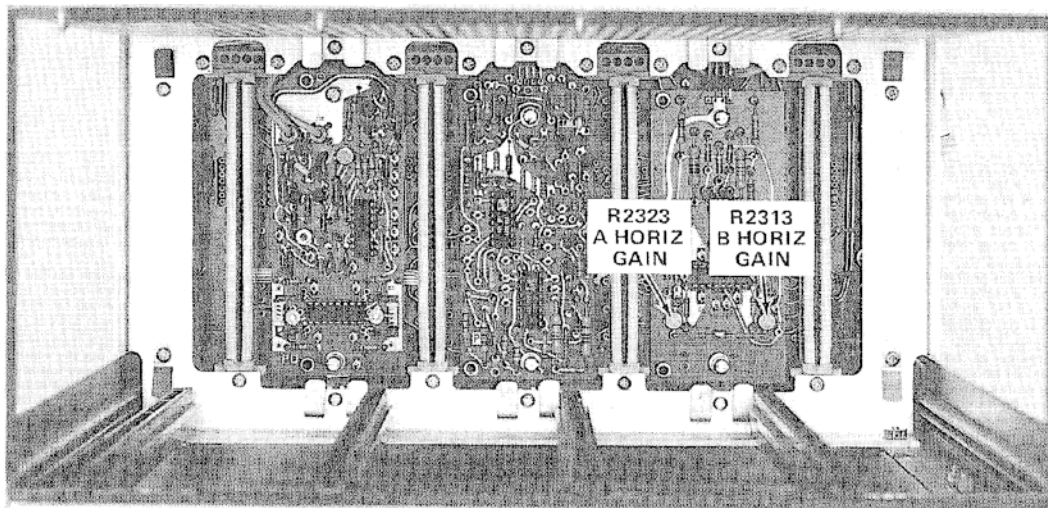

Fig. 3-6. Location of adjustments on A23, Horizontal Interface board.
i. ADJUST—A Horiz Gain adjustment R2323 (see Fig. 3-6) for exactly six divisions of deflection between the second and eighth traces.
l. Repeat parts h and i of this step; adjust B Horiz Gain adjustment R2313 (see Fig. 3-6) for the correct test-oscilloscope display.